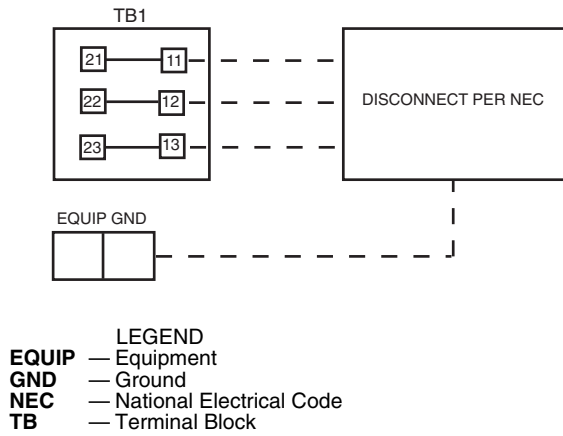

Fig. 44 — Field Power Wiring Connections
Units without Factory-Installed Disconnect — When installing units, provide a disconnect per NEC (National Electrical Code) of adequate size (MOCP [maximum overcurrent protection] of unit is on the informative plate). All field wiring must comply with NEC and all local codes. Size wire based on MCA (minimum circuit amps) on the unit informative plate. See Fig. 44 for power wiring connections to the unit power terminal block and equipment ground. Maximum wire size is two (2) 500 MCM (maximum wire size) conductors per pole.